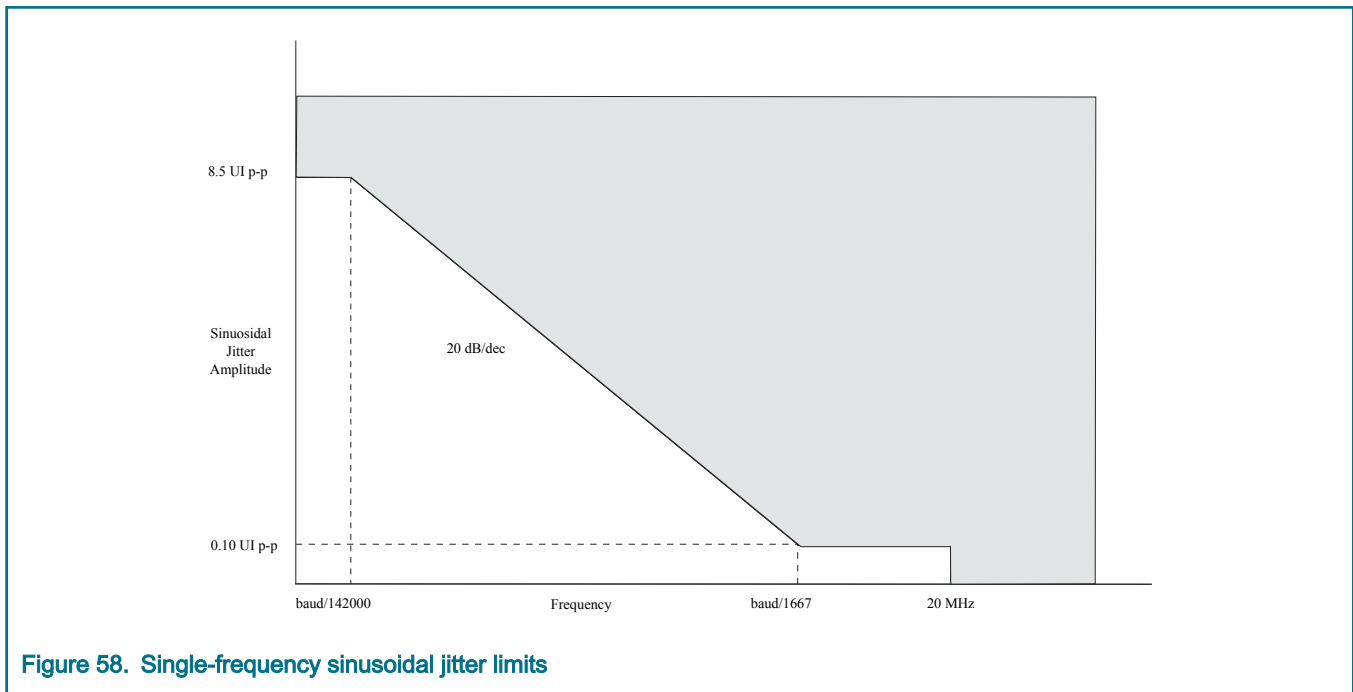

Figure 58. Single-frequency sinusoidal jitter limits
1. See Figure 58.
| 1. Measured at receiver. 2. Total jitter is composed of three components: deterministic jitter, random jitter, and single frequency sinusoidal jitter. The sinusoidal jitter may have any amplitude and frequency in the unshaded region of the Single-frequency sinusoidal jitter limits figure shown below. The sinusoidal jitter component is included to ensure margin for low frequency jitter, wander, noise, crosstalk and other variable system effects. 3. See Figure 58 . | | | | | | |